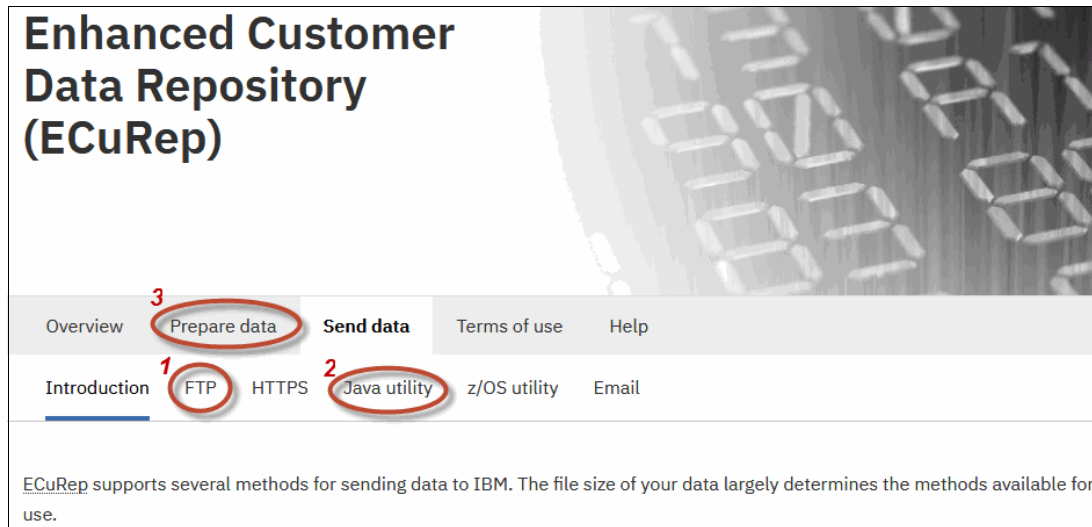

Figure 8-16 Options for sending data
2. IBM provides multiple options for uploading data. Review the options for sending data before you complete the PMR/Case number. The following options are shown in Figure 8-16 on page 329:
- As another way to upload a file other than using the standard method, you can select either FTP (1) or the Java utility (2). The Java utility is the most efficient method to upload a file.
- Select **Prepare data** tab (3) to see the details about file name conventions.
Figure 8-16 shows the ECuRep Help options.